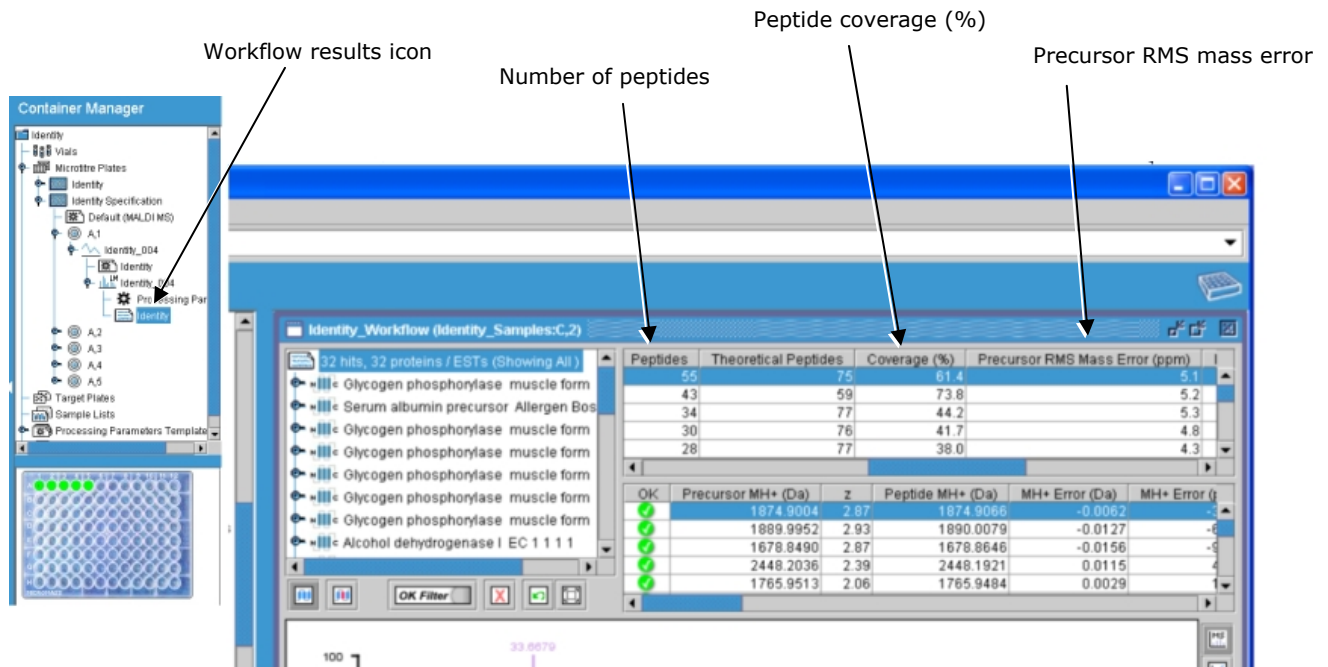

Figure 106 - Processed Mix 1 data using PLGS 2.3
41. Double-click the sample spot, or click the workflow results icon (Figure 106), to view the results.